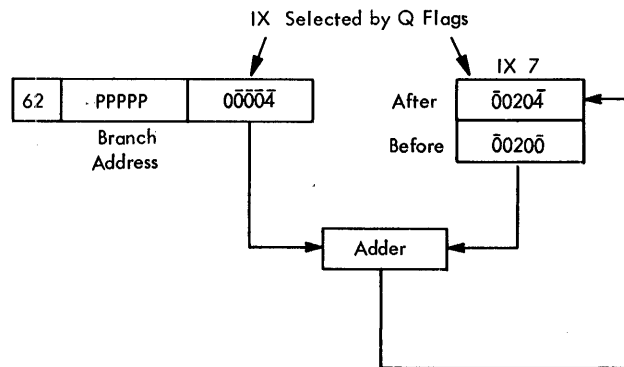

Figure 61. Branch and Modify Index Register Immediate
five digits in the Q portion of the instruction are used as the modifier (Figure 61). Flags in the Q field specify the index register to be modified. A flag in  $Q_{11}$  indicates a negative modifier.
*Description.* This instruction is similar in operation to the Branch Conditionally and Modify Index Register instruction except that the five digits in the Q portion of the instruction are used as the modifier (Figure 61). Flags in the Q field specify the index register to be modified. A flag in  $Q_{11}$  indicates a negative modifier.